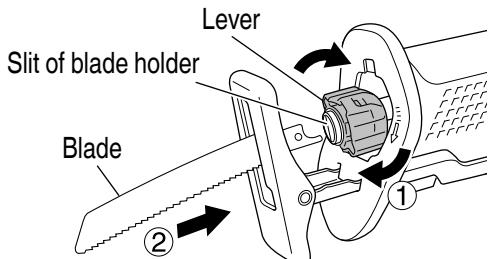
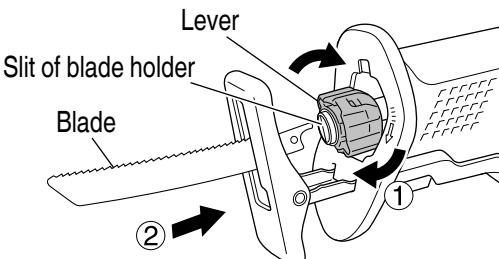
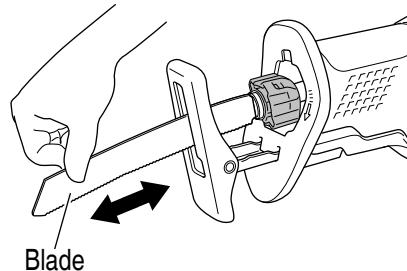

Fig. 6
Fig. 7
Fig. 8
- (1) Pivot the lever to open the blade clamp.
- (2) Insert the saw blade all the way into the small slit of the blade holder with the lever pivoting. You can mount this blade either in the upward or downward direction. (Fig. 6, Fig. 7)
- (3) When you release the lever, the spring force will return the lever to the correct position automatically.
- (4) Pull the back of the saw blade two or three times by hand and check that the blade is securely mounted. (Fig. 8)